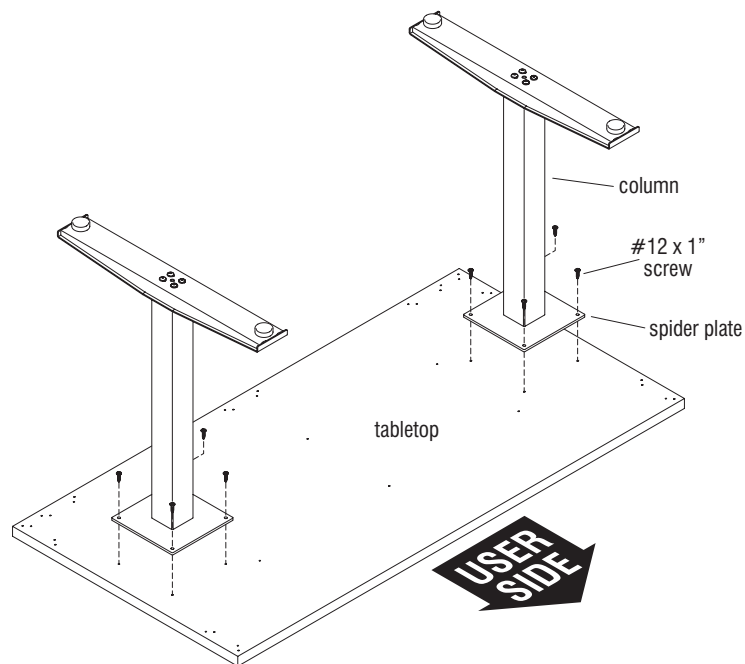

Figure 2
1. To avoid scratching the tabletop place it with the top side down on a soft, protective surface (Figure 2).
2. As illustrated, place the assembled base over the pre-drilled holes on the tabletop. Align the holes in the tabletop with those in the spider plate and attach to the tabletop using #12 x 1" tapping screws in each available hole (Figure 2).